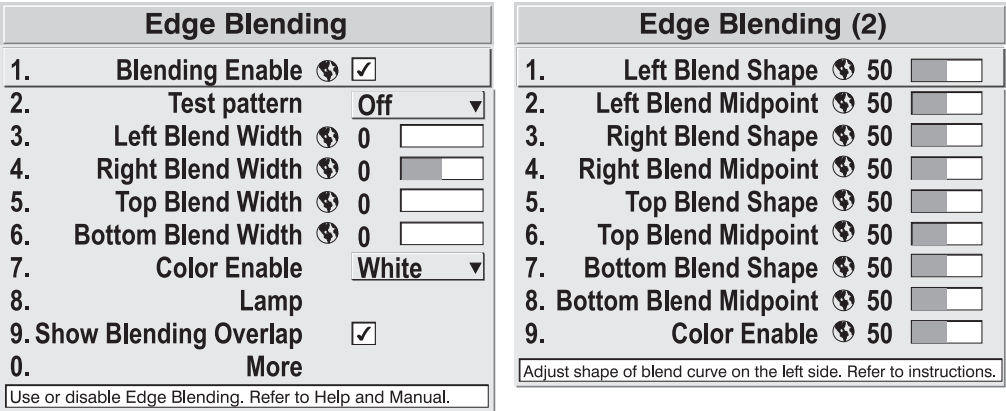

Figure 3.38. Set Starting Points for Each Projector
3. SET STARTING POINTS FOR ADJUSTMENT (Figure 3.38):
- ☐ Go to “More” and set everything in the *Edge Blending (2)* menu to 50.